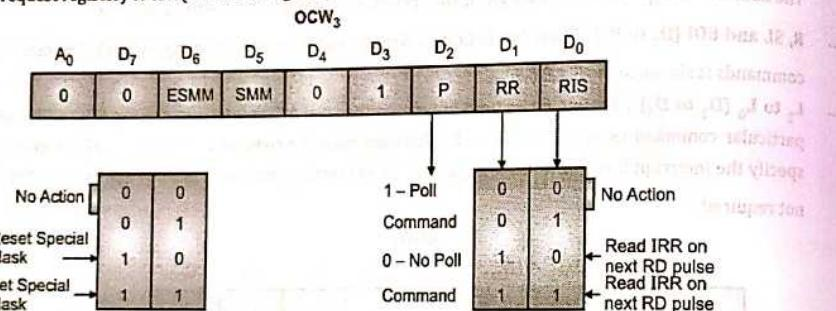

Fig. 8.6.6 : OCW3 Format
- **ESMM and SMM (D_6 and D_5)**: These bits are used to enable and disable the Special mask mode. The table for the same is shown in the Fig. 8.6.6.